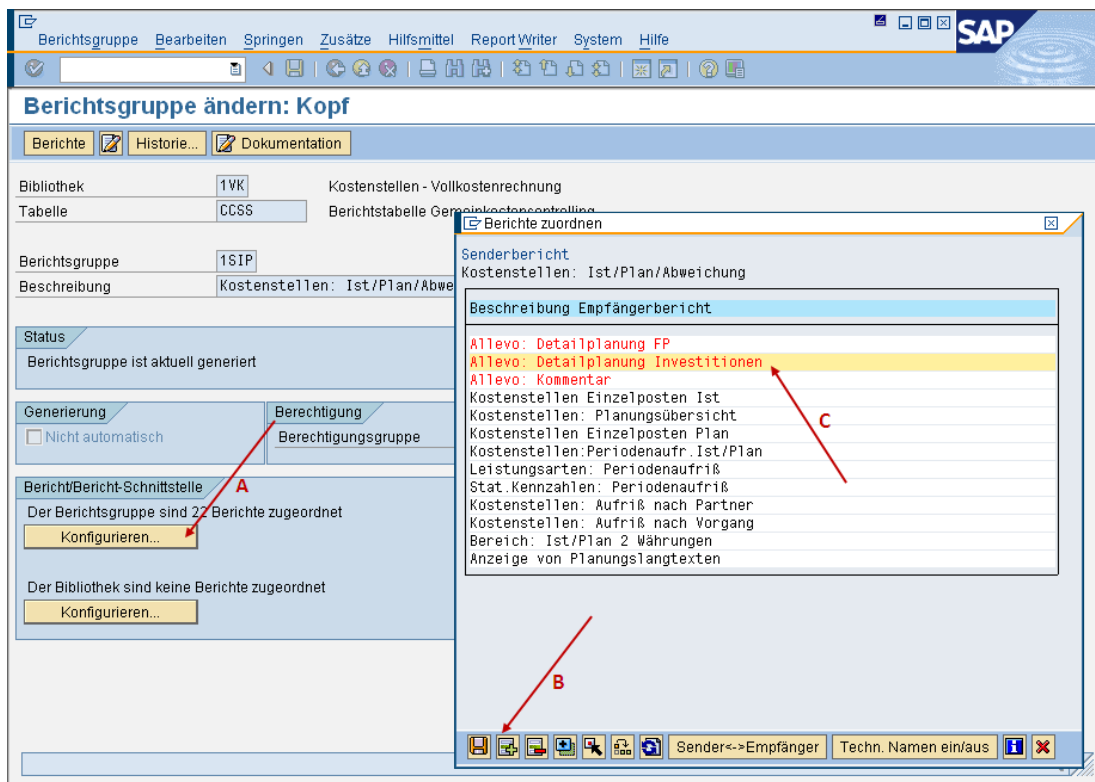

Figure 16.4: Installation report/report interface
The relevant SAP transaction is GR52: a processing screen as in Figure 16.4 appears after selecting a report group and confirming via "Enter".
- (A) Using button |Configure...|, the popup “Allocate reports” opens (see arrow A in Figure 16.4).
Enter the report name /KERN/IPPCCA051R with the desired selection variant and adopt this entry: a new row “Allocate reports” appears in the popup (see Figure 16.4).
- (C) Now, only a name that will not appear to the SAP user later in the SAP report is missing. Entry is made in the popup under “Description receiver report” (see Figure 16.4).
- (D) Control of the entry in transaction GR55: Double-clicking on an amount field opens the selection list of available detail reports.